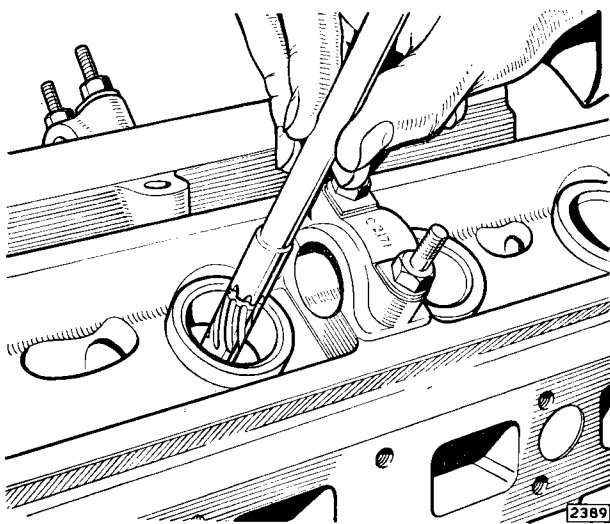

Fig. 59. Reaming the bores in the cylinder head with Churchill tool number J.18 to take service replacement valve guides
4. Coat the valve guide with graphite grease and press in, or drive in with a piloted drift, from the combustion chamber end. The correct fitted position for both inlet and exhaust guides is with the top of the guide (chamfered end) $\frac{5}{16}''$ (8 mm.) above the spot facing for the valve spring seat. (See Fig. 59).